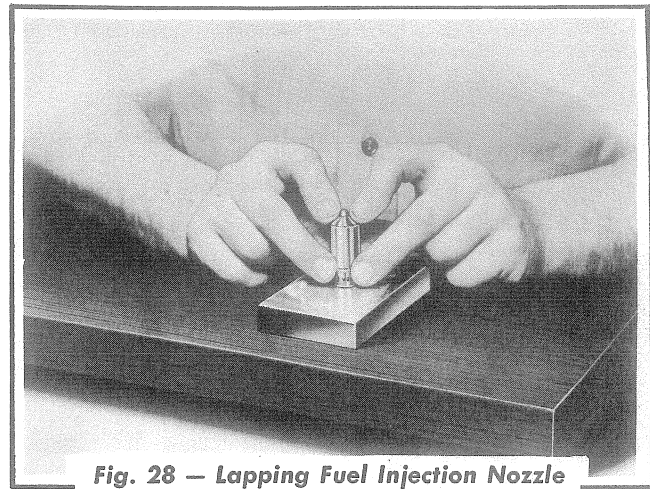

Fig. 28 — Lapping Fuel Injection Nozzle Valve Body
- i. Examine the flat sealing surface of the valve body (surface which contacts the lower end of the holder body) and make certain the surface is clean and free of scratches. This surface may be lapped, if necessary, using "Allis-Chalmers" 900G lapping compound, castor oil, and a lapping block as shown in Fig. 28. After lapping, remove all traces of the lapping compound with clean diesel fuel.
- e. Visually inspect the parts for damage or wear and replace the necessary parts. Examine the flat sealing surface of the holder body (surface which contacts the upper end of the valve body) and make certain the surface is clean and free from scratches. This surface should be lapped, if necessary, using "Allis-Chalmers" 900G lapping compound, castor oil, and a lapping block similar to the one shown in Fig. 28. When lapping, use care to keep the nozzle holder body square with the lapping block to assure contact with the entire area being resurfaced. After lapping, remove all traces of the lapping compound with fuel and dry with filtered compressed air.